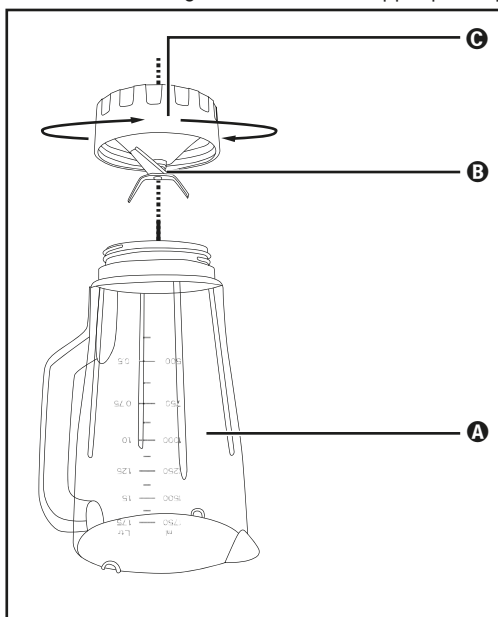

Fig. 3
- 2) Turn the appliance upside down and turn the lower plastic part ④ of the blender ③ anticlockwise so that it can be removed from the upper plastic part ⑤ of the blender ③ (see fig. 3).